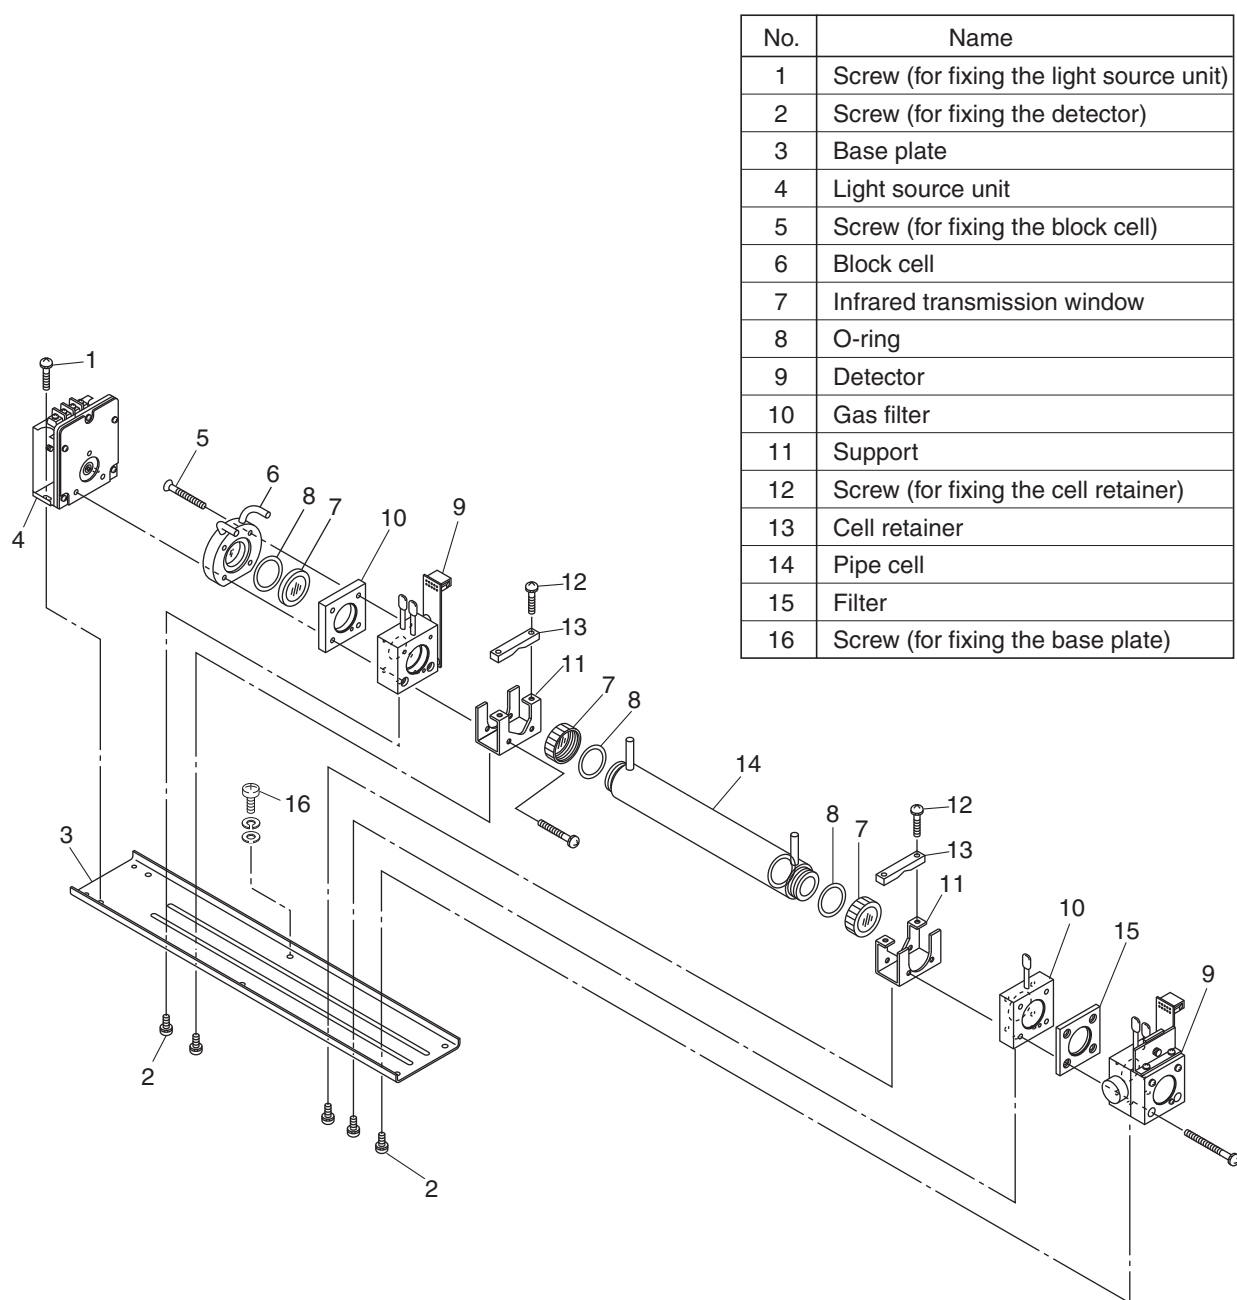

Fig. 7-3 Configuration of measuring unit (2-component analyzer: block cell + pipe cell)
2-component analyzer may incorporate both sampling cells in optical unit. In such a case, detach the pipe cell and then block cell (See Fig. 7-3).
(3) How to remove measuring unit (See Fig. 7-3)